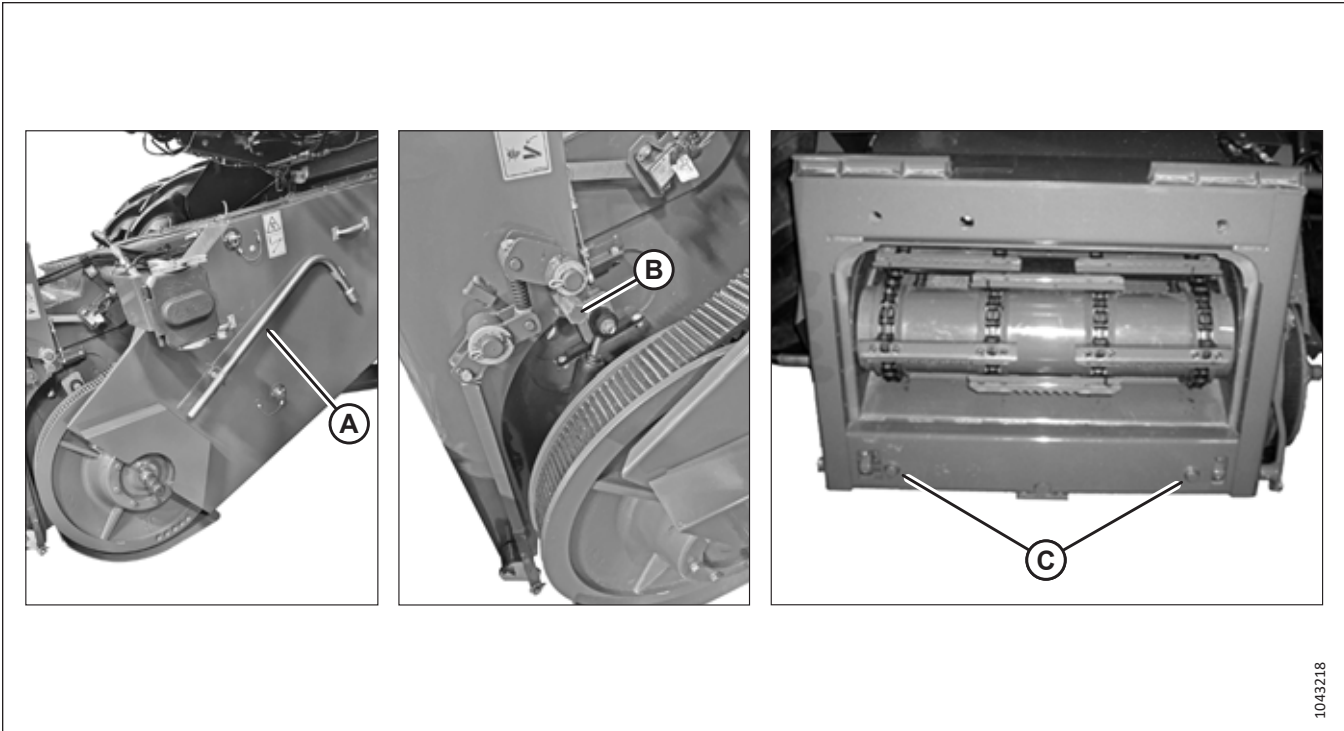

Figure 4.11: Feeder House
Ensure that alignment pins (C) (refer to Figure 4.11, page 58) on the feeder house align with holes (B) in the float module frame.